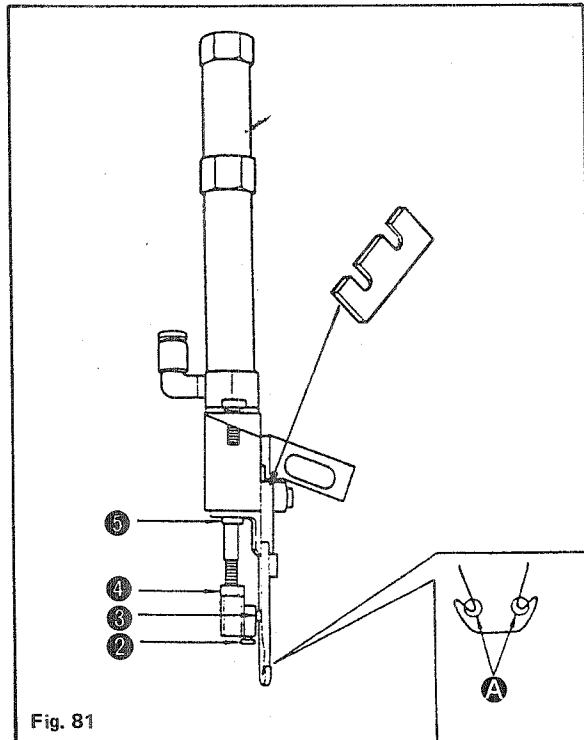

Fig. 81
1. Remove setscrew ① and remove the needle thread knife unit.
2. Loosen screw ② and pull out pin ③. (As the pin has a spiral ridge, turn the pin to pull out.)
3. Replace the needle thread knife with a new one. Make sure that unchamfered face of the ④ portion (Fig. 81) contacts the fixed knife.